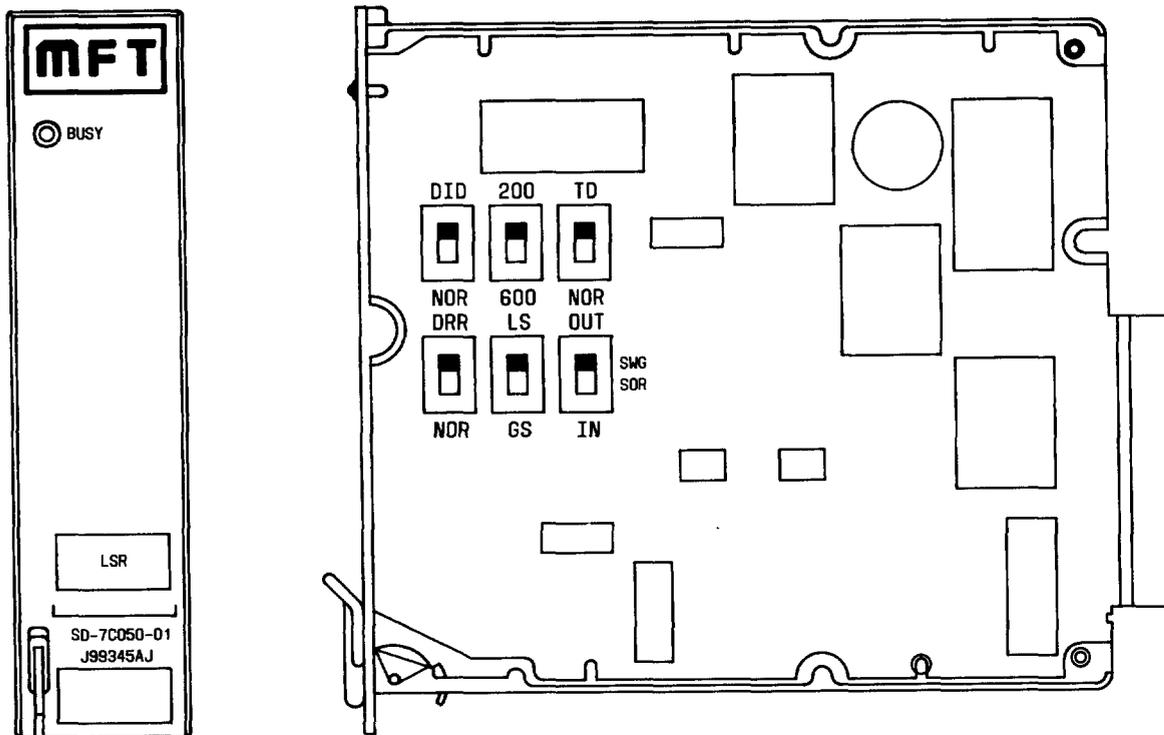
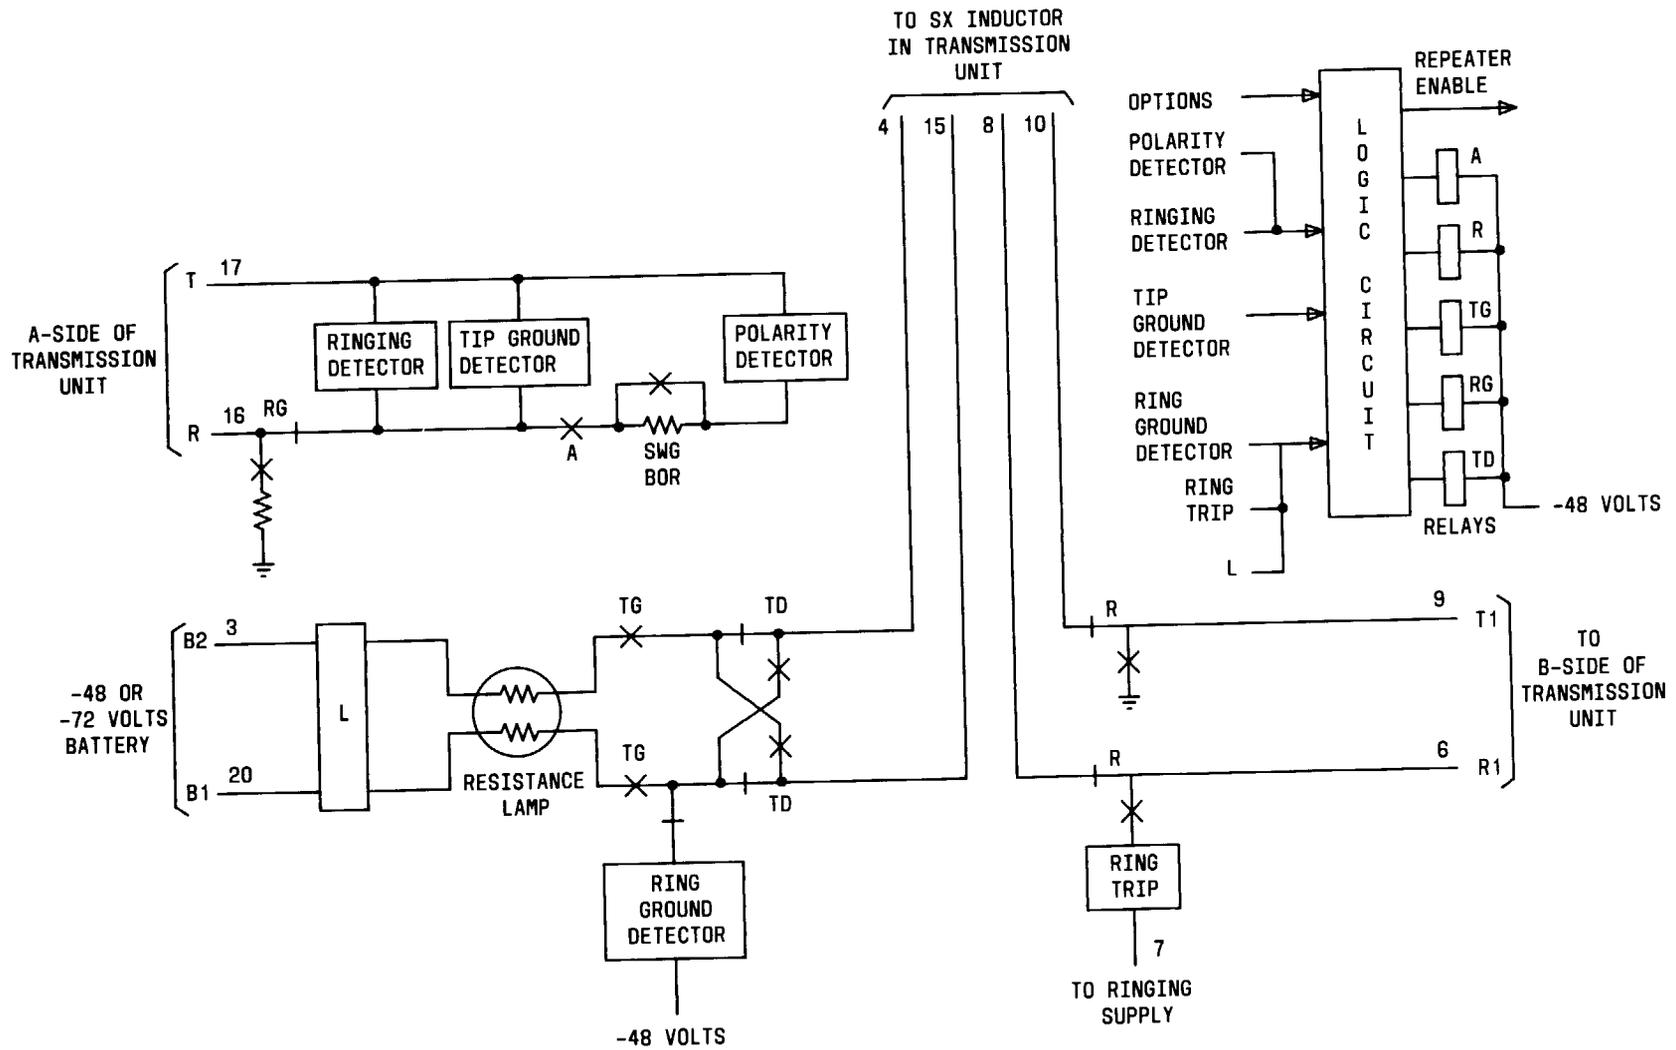

Fig. 1 — J99343AJ LSR
Fig. 2—Block Diagram of J99343AJ LSR
2.01 The J99343AJ LSR is shown in Fig. 1. This unit provides regeneration of all signals required for loop-start and ground-start operation. Figure 2 is a block diagram of the unit. The following paragraphs contain a description of the J99343AJ LSR functions.
2.11 The J99343AJ LSR unit controls are described briefly in the following paragraphs and are illustrated in Fig. 1.